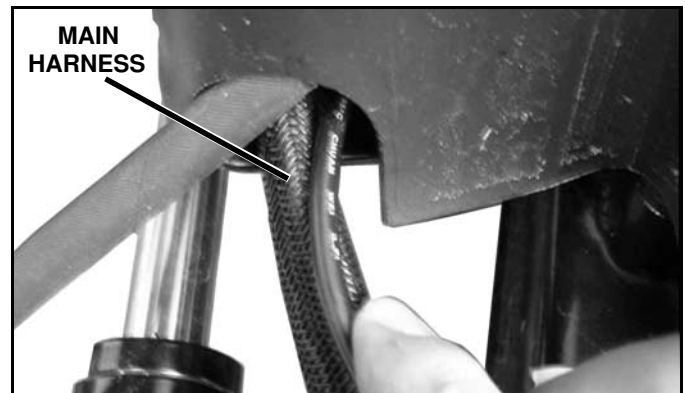

Figure 1-7
2. Run the 4 wire harness on the receiver unit over to the main power harness. Zip tie where necessary to the main power harness. Ensure the control wire harness is routed in the power harness clamp and continue running with the main power harness. Leave enough room to connect harness to vehicle harness. Ensure the cable is clear of pinch points and latching mechanism. Any excess cabling should be kept and zip tied under the pump cover (See Figure 1-7 & 1-8).